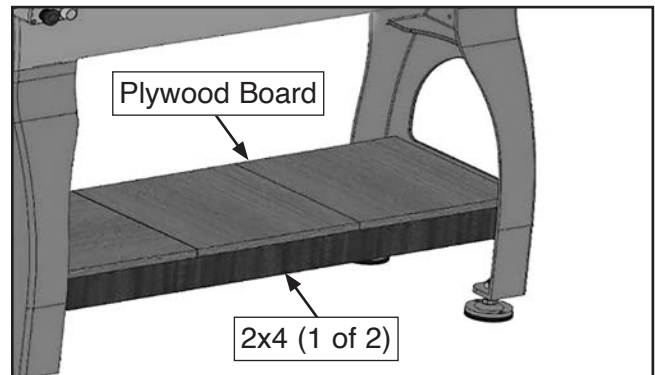

Figure 33. Boards installed and secured.
1. Set two 2x4 (or 2x6) boards on edge in lower brackets of leg castings (see **Figure 33**).
2. Cut plywood board (see **Figure 33**) to fit flush with outside edges of 2x4s and secure with wood screws.